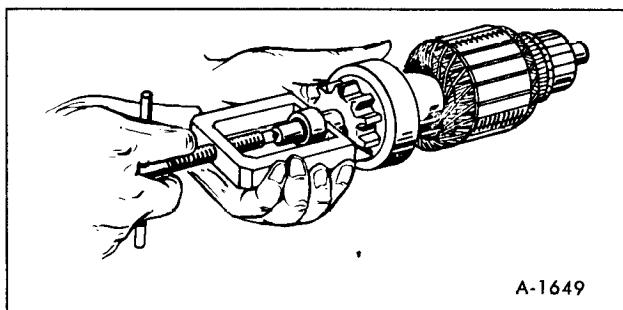

Figure 61—Installing Overrunning Clutch
2. Install the overrunning clutch assembly, the ring and the stop ring on the armature shaft. Drive pinion stopper far enough on shaft to install stopper ring. Then using a puller (figure 61) pull stopper against ring.